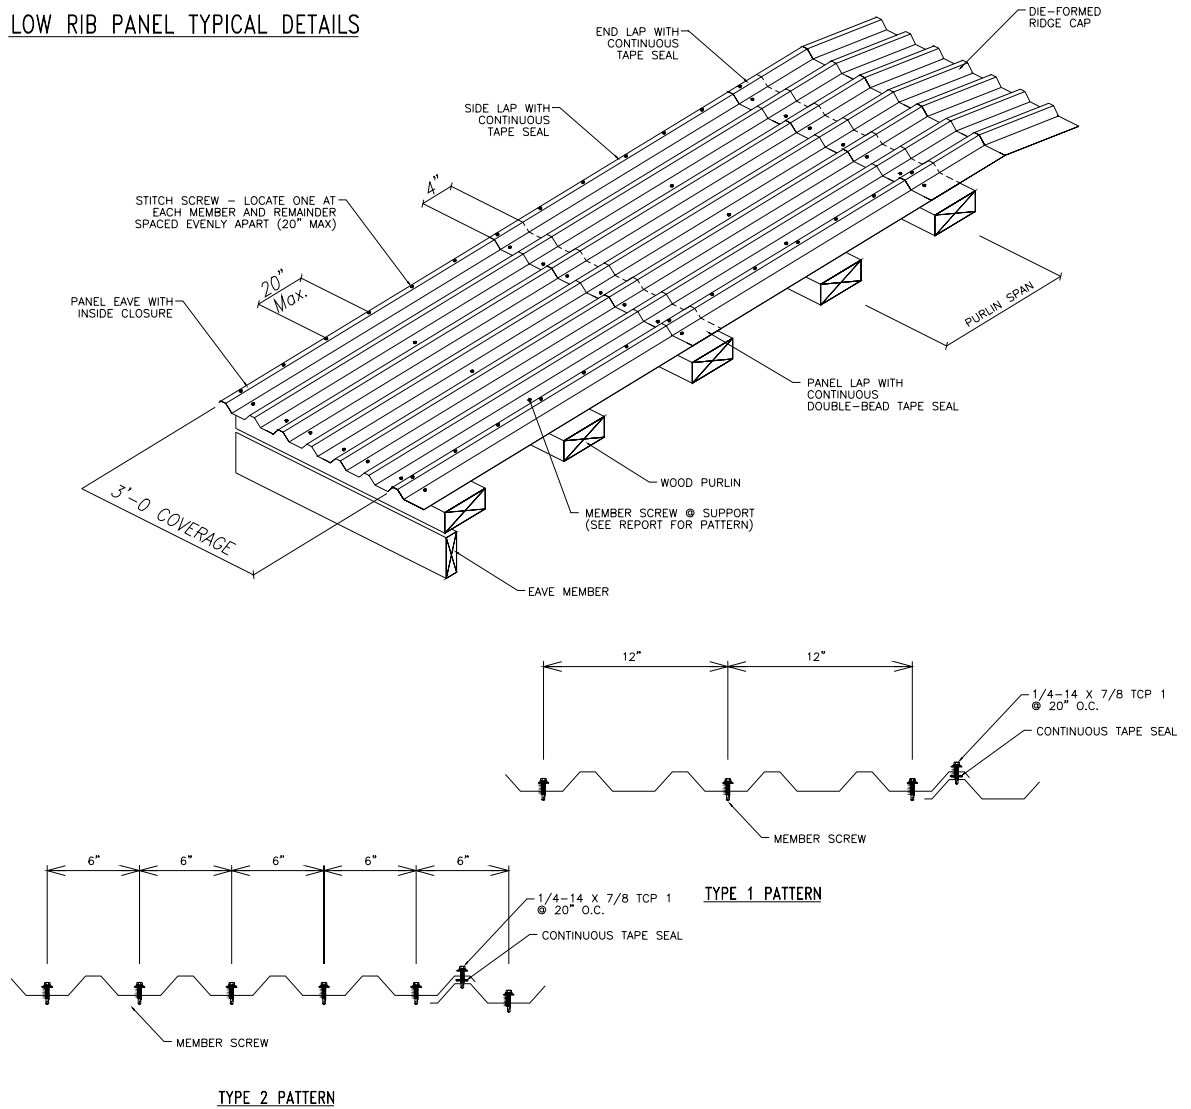
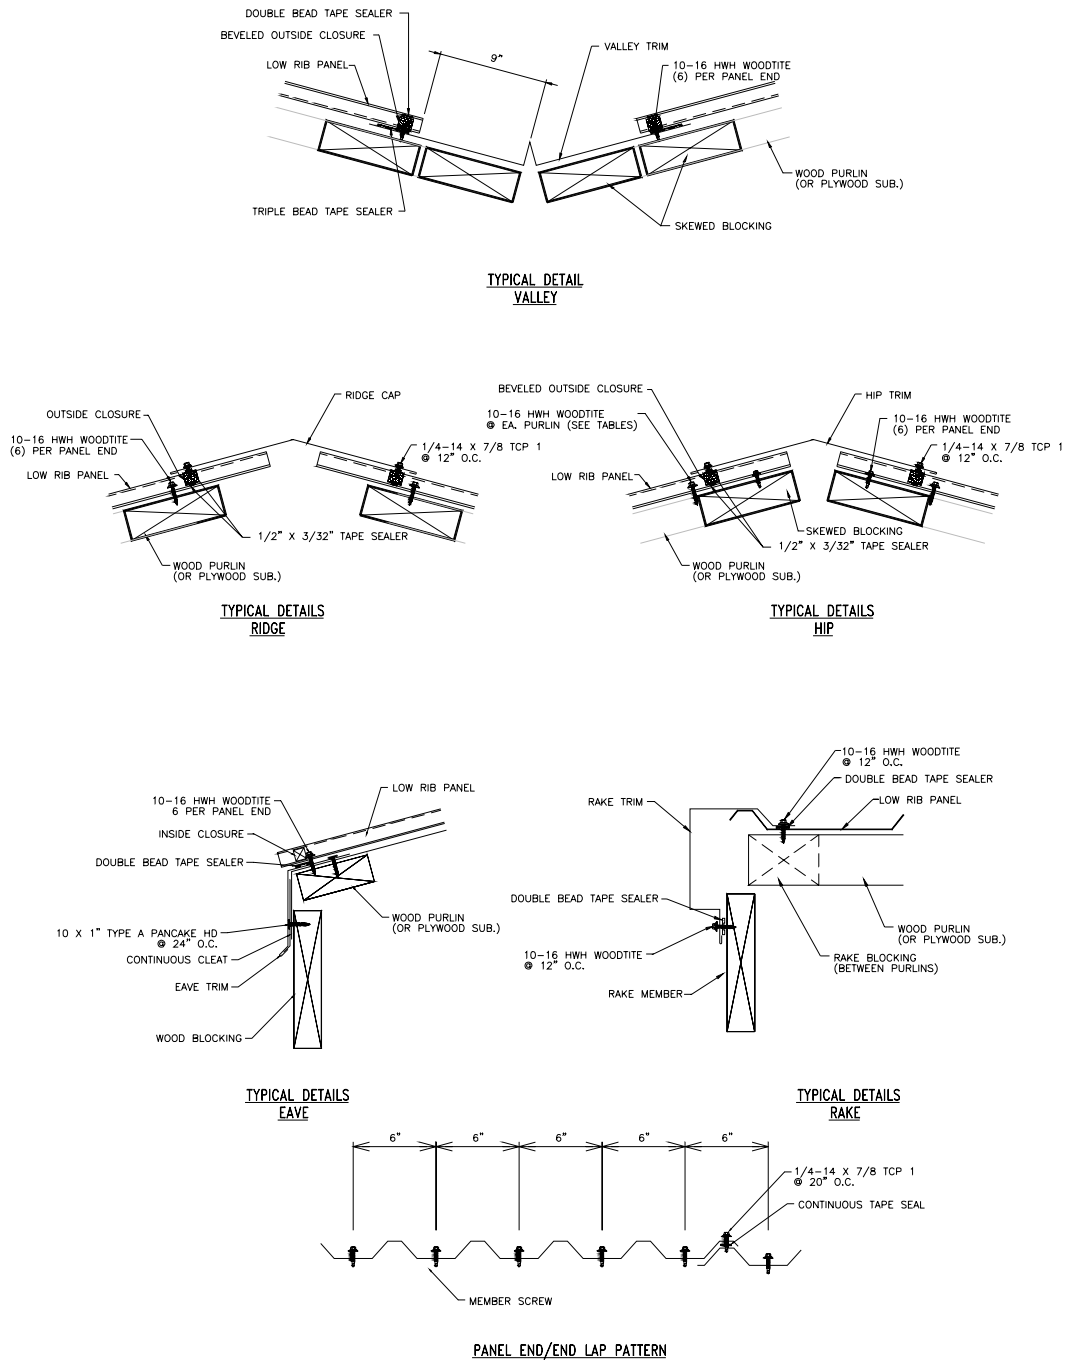
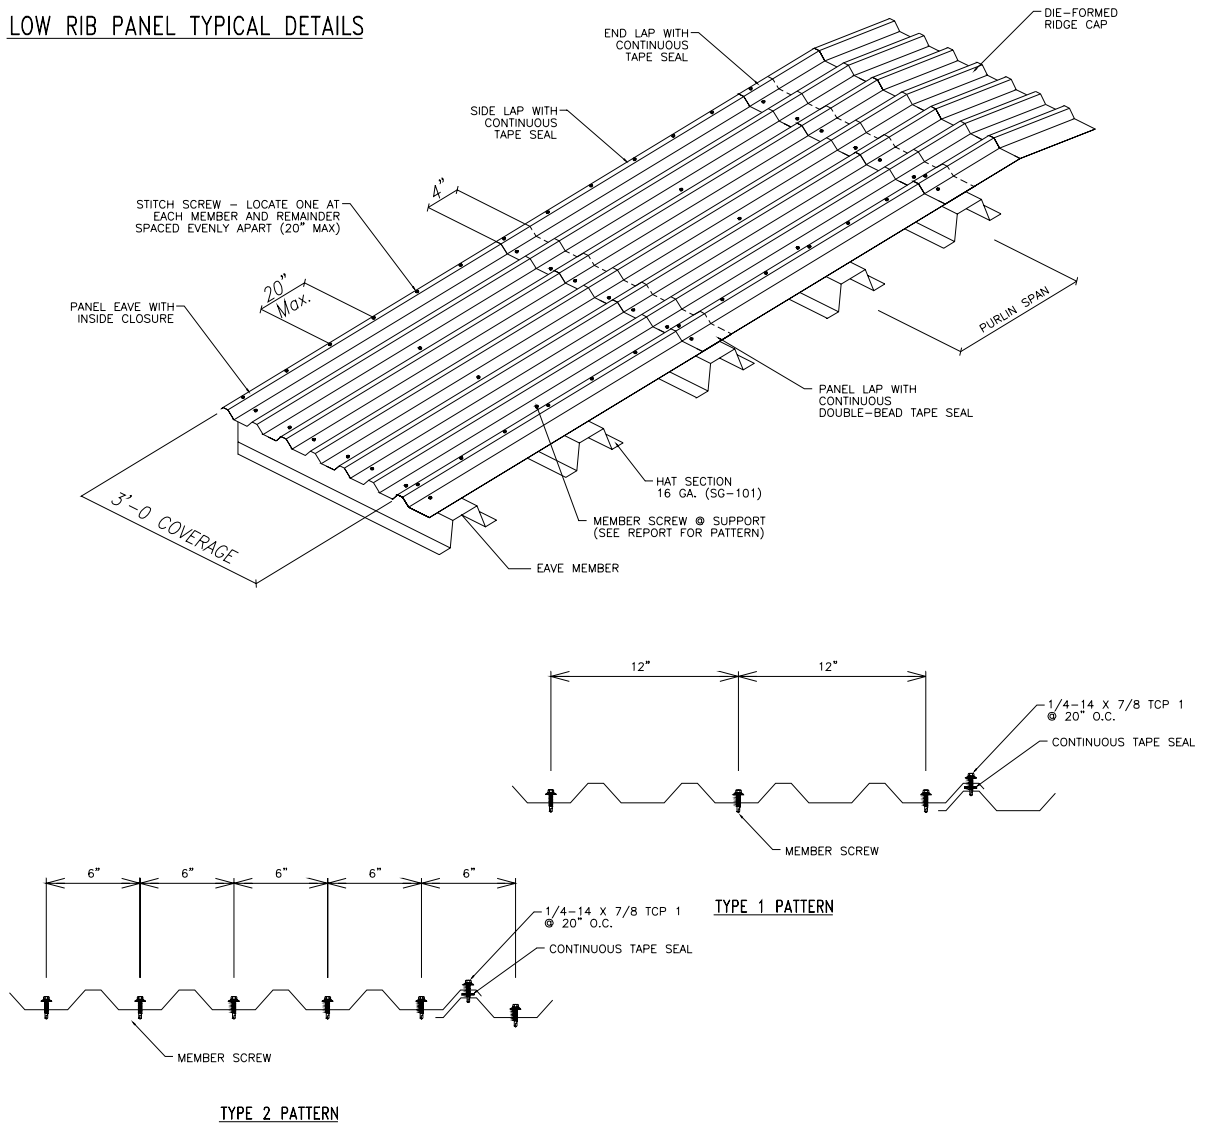
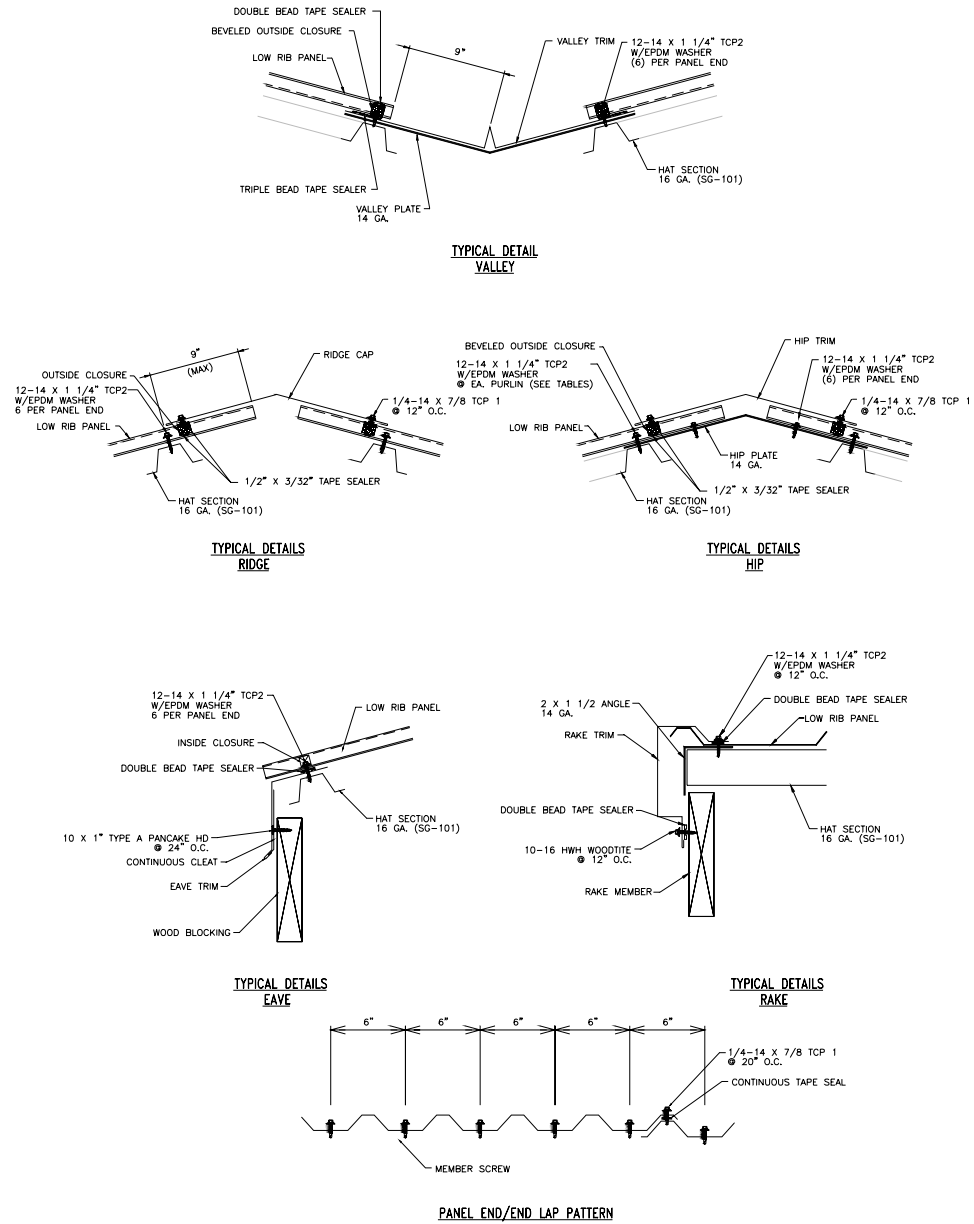

Figure 1: Low-Rib Panel Installation Over 2x4 Purlins
Figure 2: Low-Rib Panel Installation Over 2x4 Purlins – Details
Figure 3: Low-Rib Panel Installation Over 16 Gauge (Hat) Purlins
Figure 4: Low-Rib Panel Installation Over 16 Gauge (Hat) Purlins - Details
**Panels:** Panels shall be attached in accordance with Tables 1-5. Refer to Figure 1 and Figure 3 following the tables for illustrations of the screw patterns.
**Ridge Cap and Rake Trim:** The ridge cap and the rake trim shall be attached to the panels with ¼ inch #14 x 7/8 inch HWH self-drilling lap screws with #1 drill point as indicated in Figure 2 and Figure 4. Elastic butyl tape (tape sealer) and ¼ inch #14 x 7/8 inch self-drilling lap screws with #1 drill point and an EPDM integral washer, manufactured by Atlas Bolt and Screw Company, are required along the side laps spaced according to Figure 1 and Figure 3.